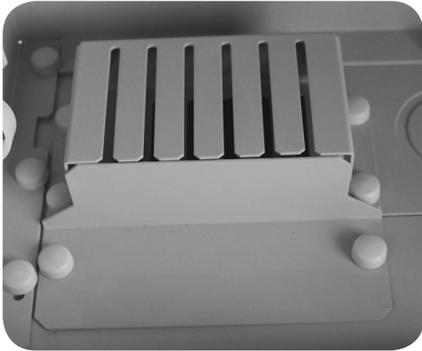

Figure 22
2. Using a standard 216 style tool, or similar, remove the two nuts that secure the MDU drop access plate to the cabinet body. **(Figure 22)**